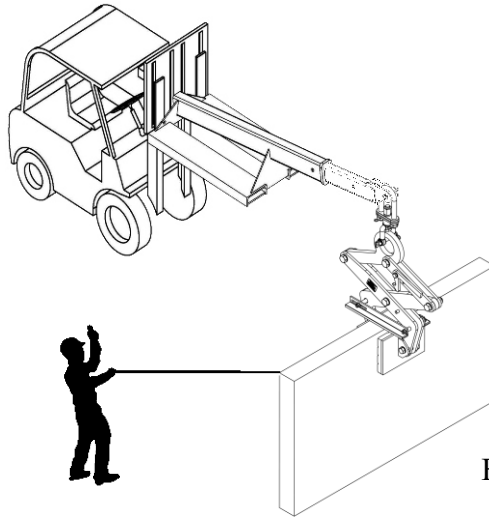

Figure 3.1
Step 3: Move the stone slab (Figure 3.1)